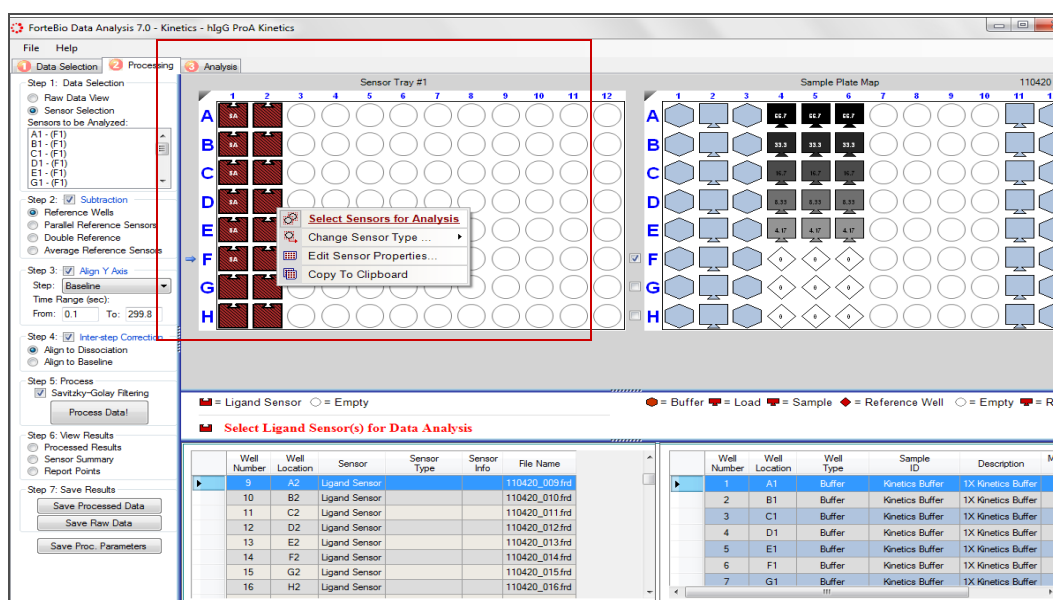

Figure 5-26: Selecting and Confirming the Biosensors to Analyze
1. Apply Savitzky-Golay filtering by clicking the **Savitzky-Golay Filtering** check box; see Figure 5-26.